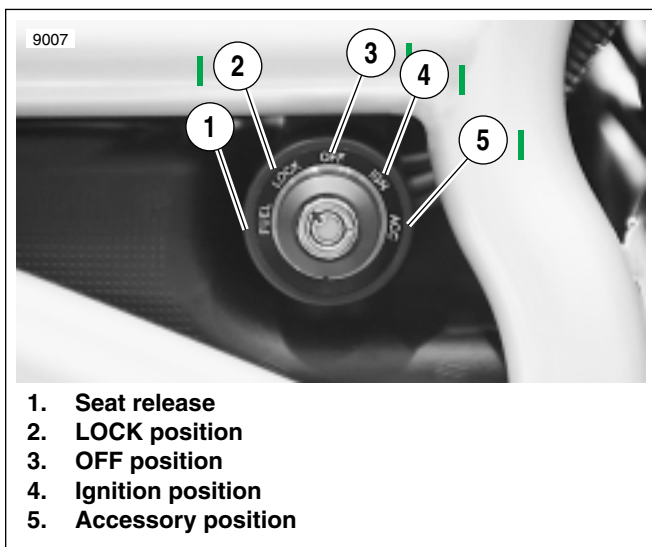
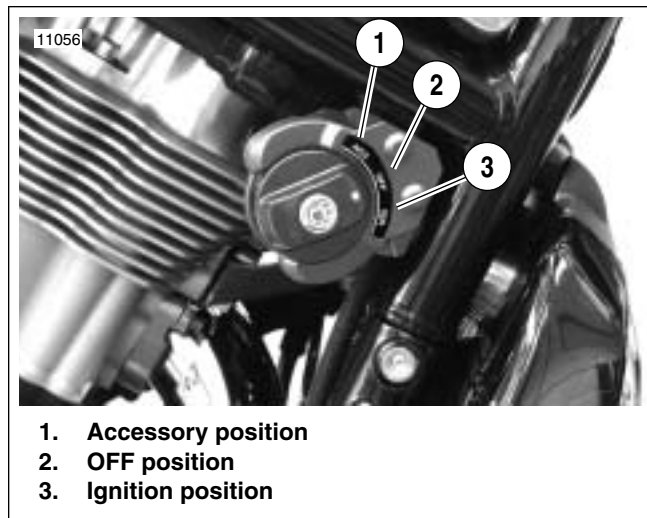

Figure 4-5. Ignition Switch (VRSCA/VRSCD)
Figure 4-6. Ignition Switch (VRSCR)
- See Figure 4-5. Ignition Switch \(VRSCA/VRSCD\) and Figure 4-6. Ignition Switch \(VRSCR\). “Key ON” means that the ignition key is turned to IGN and the engine stop switch is set to RUN (although the engine is **not** running).